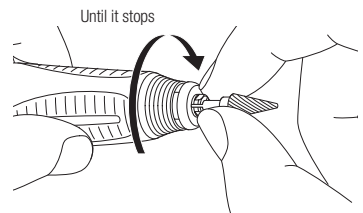

Fig. 9
- 3) Turn the chuck clockwise with your finger until it stops (Fig. 9). Then lock the bur lock ring to securely hold the bur.